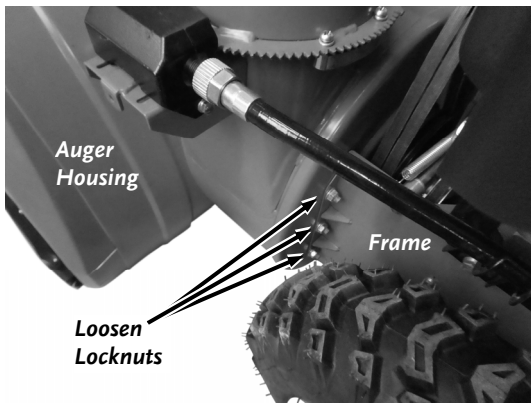

Figure 50
6. Loosen (do not remove) the three Locknuts on the left side of the Transmission Box using a 13mm Wrench (**Figure 50**).